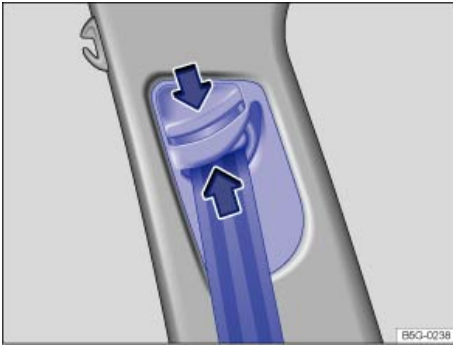

Fig. 58 Next to the front seats: Safety belt height adjuster.
- Pinch the safety belt attachment together as indicated by the arrows and hold ⇒ fig. 58.